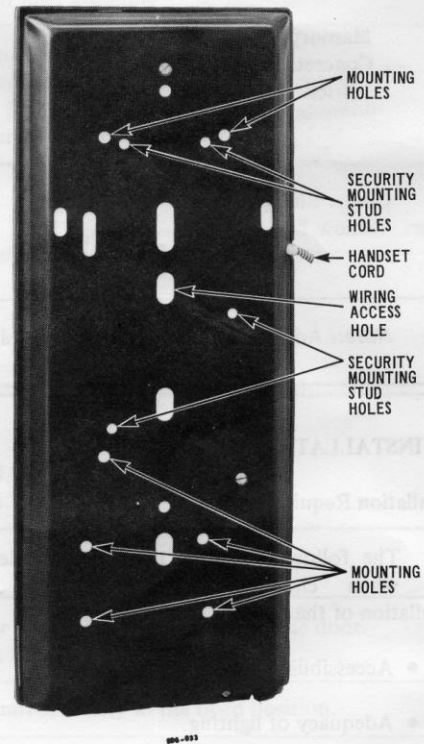

Fig. 8 – Location of Mounting Screw and Security Stud Holes
- (b) Insert the four P010E070 security studs in the threaded holes in the back of the telephone set (Fig. 8).